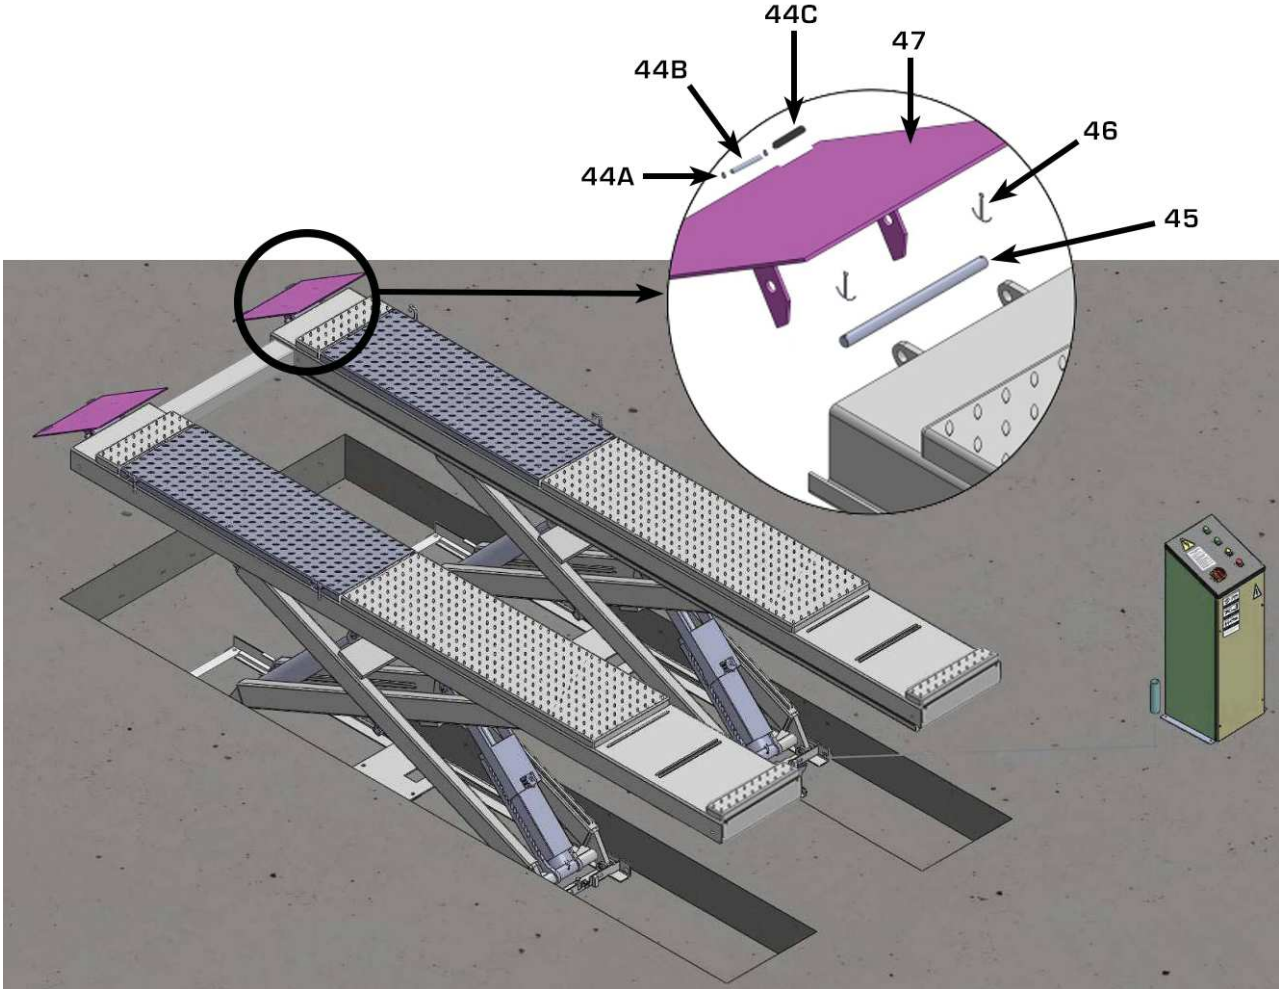

Fig. 6
2.2 Illustration for flush mount installation (Fig. 6).